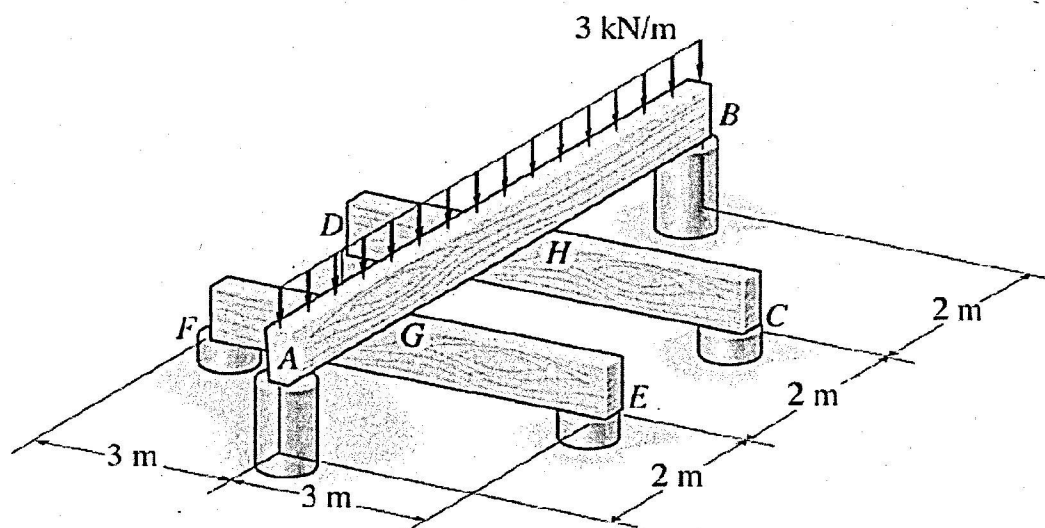

Fig. 3
2. [25 Points] Refer to Fig. 3. The assembly consists of three simply supported beams for which the bottom of the top beam rests on the top of the bottom two. If a uniform load of 3 kN/m is applied to the top beam, determine the vertical reactions at each of the supports (A, B, C, D, E, F). The flexural rigidity EI is constant.